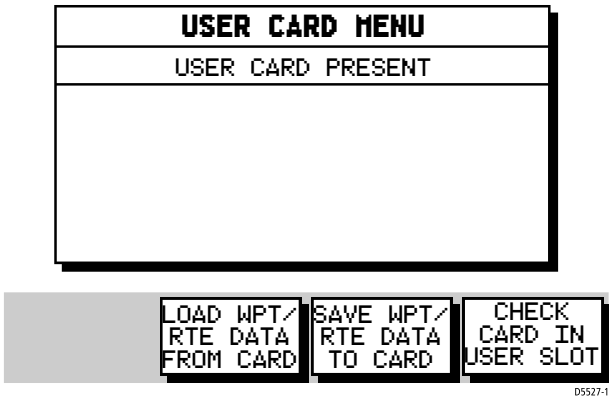

Figure 3-45: User Card Menu Screen
- 3. Press the LOAD/SAVE USER CARD soft key; the User Card Menu is displayed, together with it's associated soft keys, see *Figure 3-45*.
- 3. Press the LOAD/SAVE USER CARD soft key; the User Card Menu is displayed, together with it's associated soft keys, see *Figure 3-45*. To load Waypoint/Route data previously saved to the User Card: